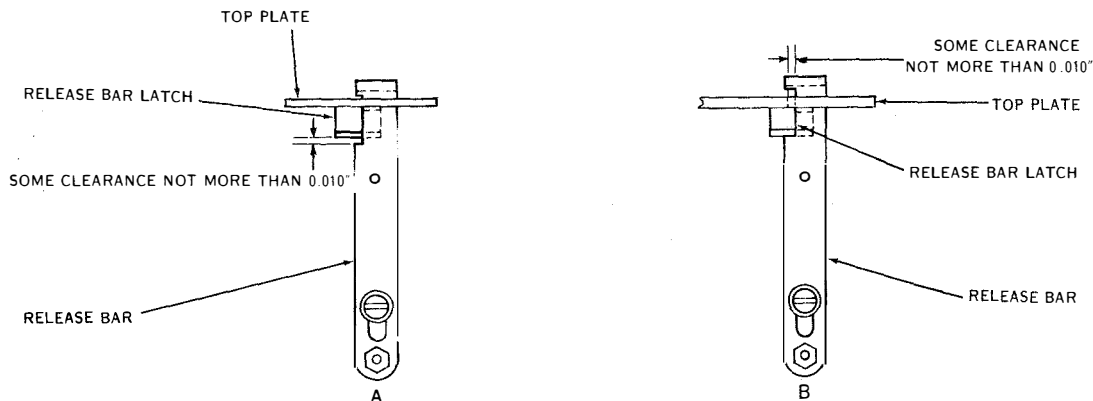

Figure 7-107. Release Bar Latch
(46) RELEASE BAR LATCH. (See figure 7-107.)